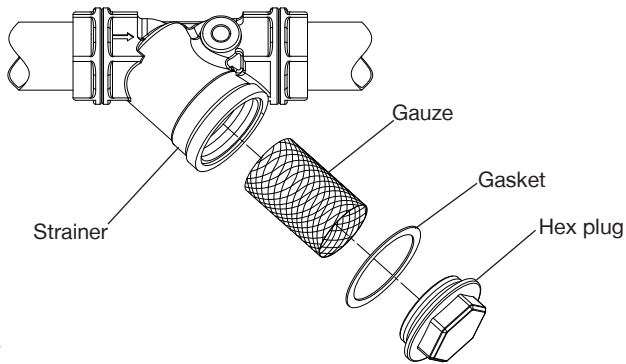

Fig. 8
The strainer is located in the inlet pipework to the pump (Fig. 8). The gauze filter is removed as follows:-
- d) Remove screwed hexagonal plug from strainer body taking care to collect or absorb any residual water (Fig. 8).